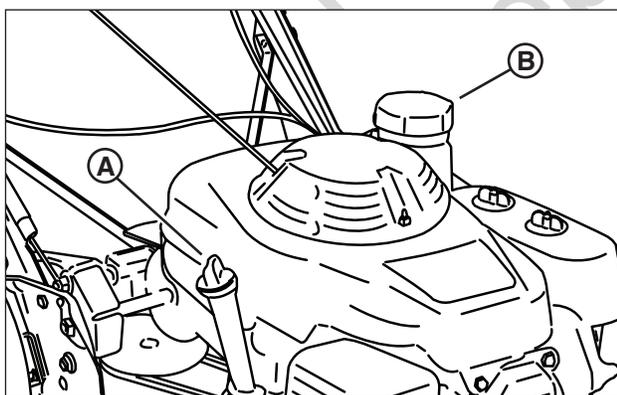

Figure 2: Oil and fuel fill
5. Check the engine oil (**A, Figure 2**) and add oil as needed to bring the level up to the full mark. Refer to the Engine Owner's Manual for oil specifications and procedures.
- Remove the fuel fill cap (**B, Figure 2**).